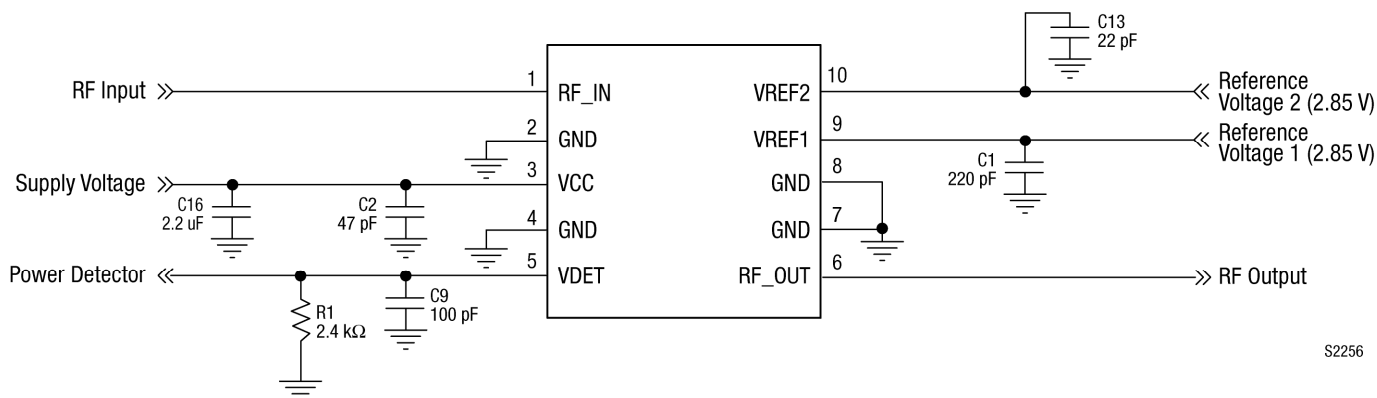
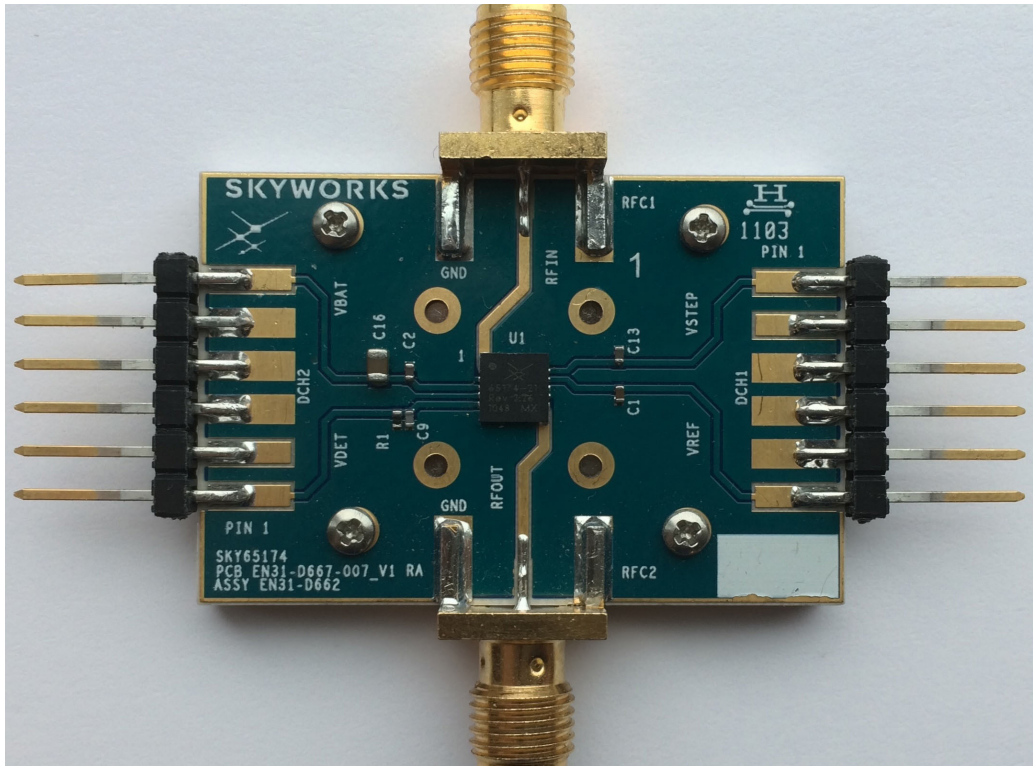

Figure 13. SKY65174-21 Application Schematic for Both 3.3 V and 5 V Operation
Figure 15. SKY65174-21 Evaluation Board
The SKY65174-21 Evaluation Board is used to test the performance of the SKY65174-21 PAM. Application schematic diagrams are provided in Figures 13 (for applications using phase and amplitude tracking) and 14 (for applications that do not use amplitude tracking). A photograph of the Evaluation Board is shown in Figure 15.
- Bypass capacitors should be used on the DC supply line (VCC). Refer to the schematic drawings in Figures 13 and 14 for further details.